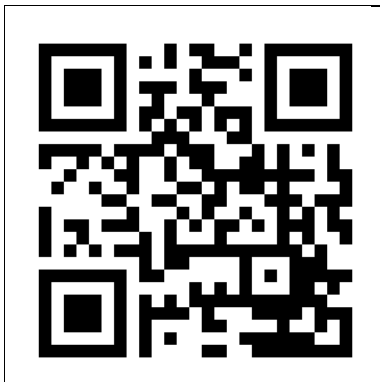

Figure 15
1. Open the Eurom Smart App manual with the QR code (Figure 15) or go to www.eurom.nl/nl/manuals.